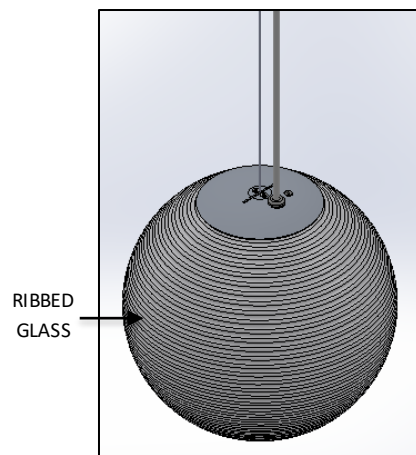

FIG. 2 RIBBED GLASS LUMINAIRE
1. RIBBED GLASS LUMINAIRE with CORD & AIRCRAFT CABLE attached. (Pre-assembled as shown in FIG. 2)